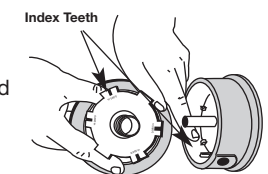

Fig. 30
5. Check the indexing teeth on the inner reel and outer spool for wear (Fig. 30). If necessary, remove burrs or replace the reel and spool.